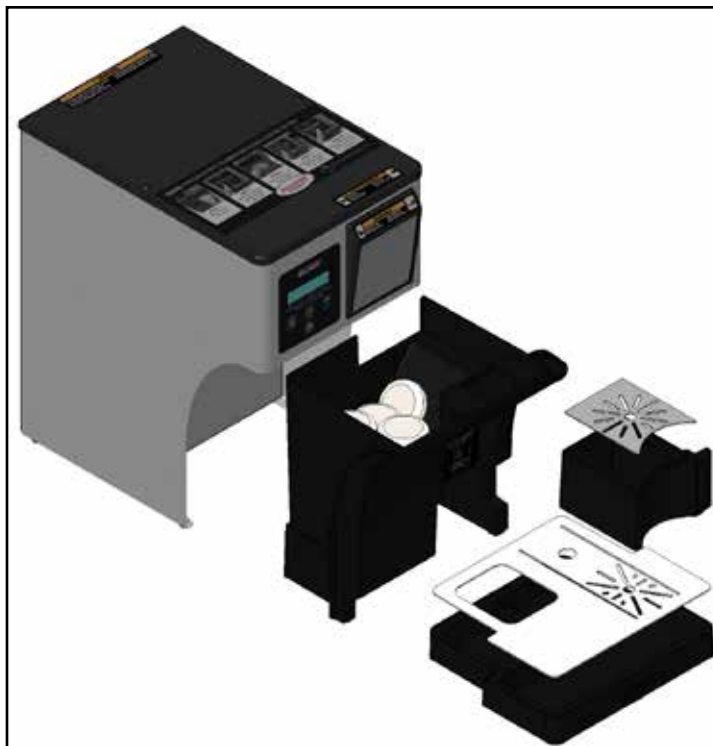

FIG 8-4
3. Separate the parts as shown in Fig 8-4 and wash with mild, nonabrasive, liquid detergent.